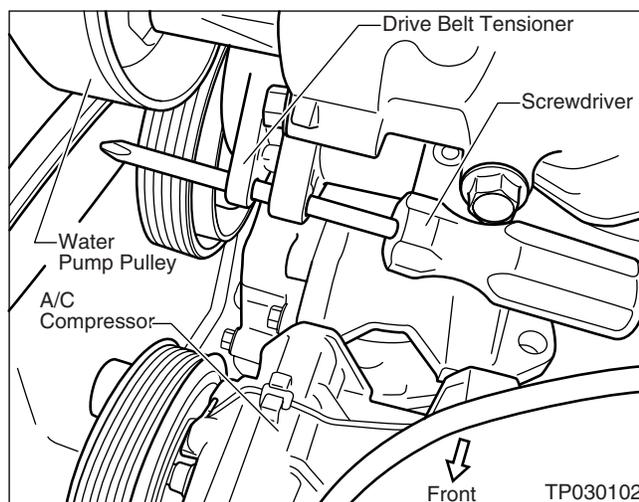

Figure E7
**IMPORTANT:** Prevent the belt tensioner from losing its tension by inserting a screwdriver (or other suitable device) through the tensioner mounting hole (see Figure E7).